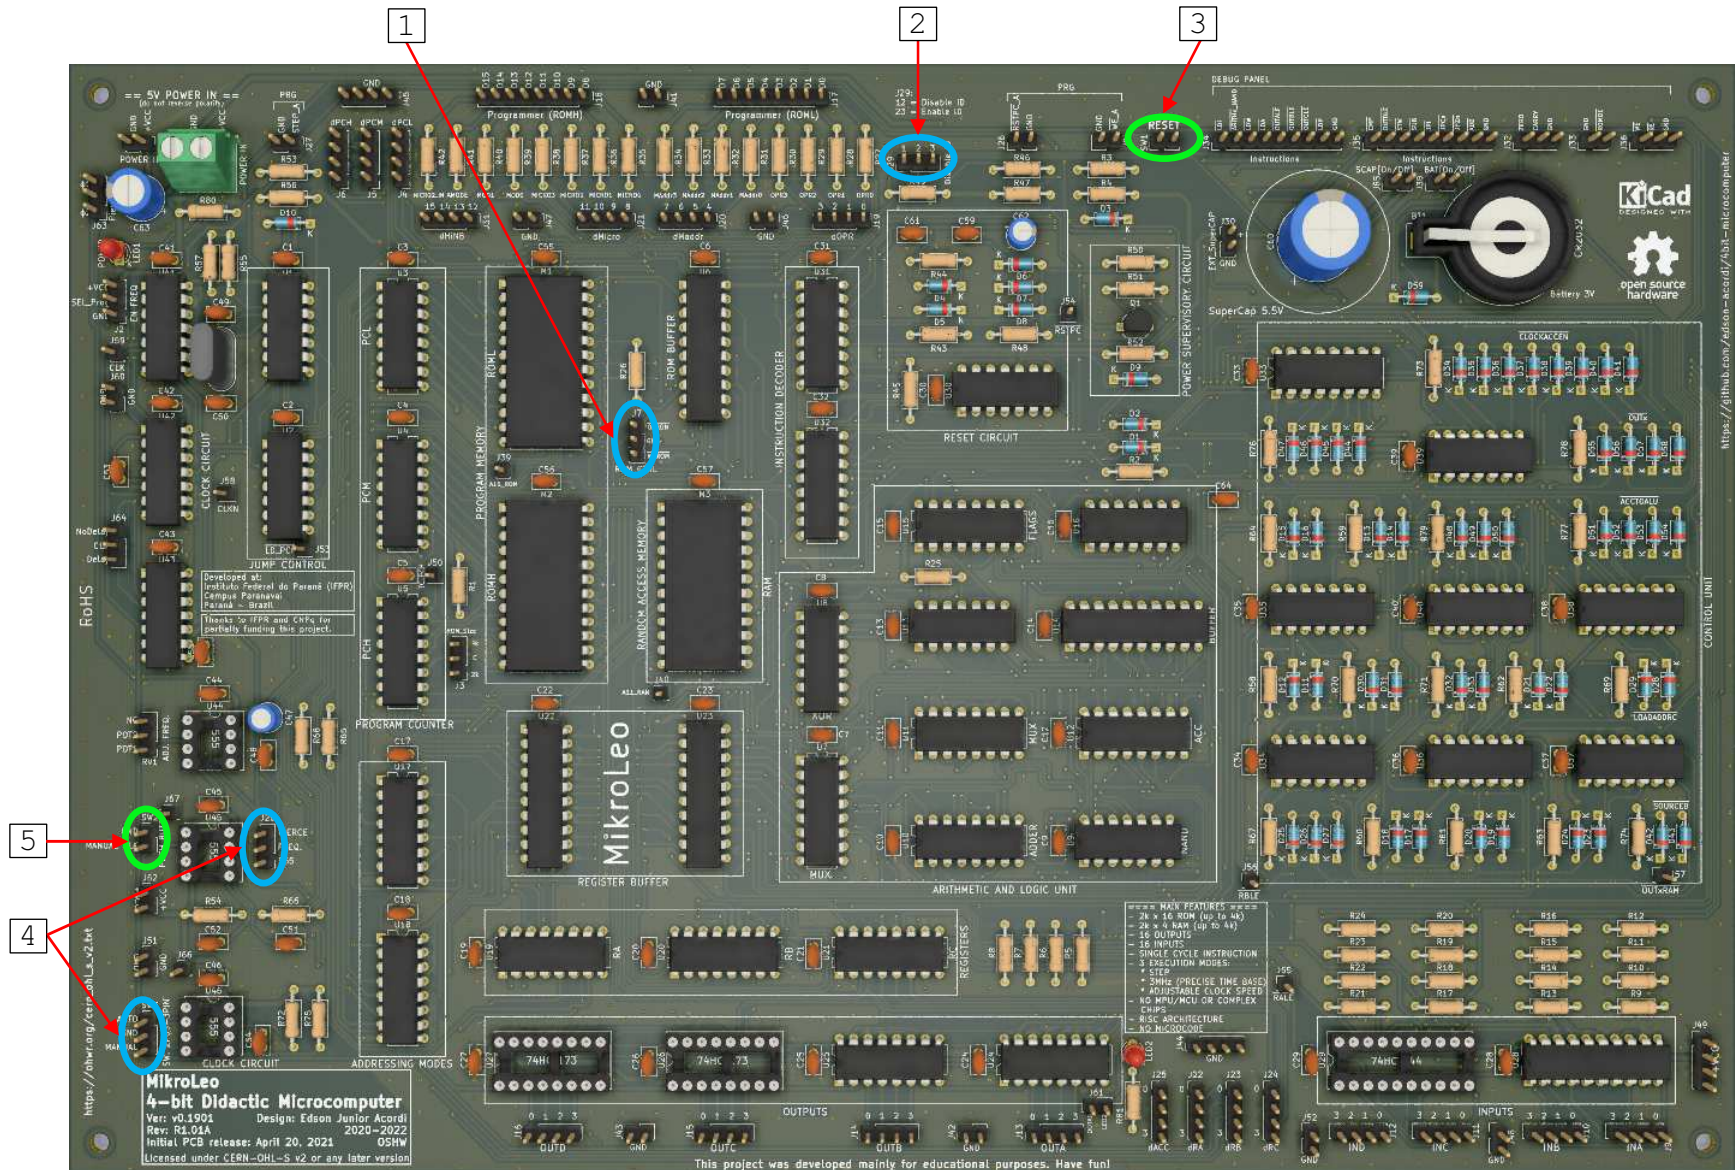

Figure 9 - Configuring the MikroLeo board to run a program
- 1) Close the pins **GND- $\overline{\text{OEROM}}$**  of jumper (J7) - Figure 9
- 2) Enable the Instruction Decoder (J29 - close pins 2-3) - Figure 9
- 4) If you want to RUN in AUTO mode, select a Clock source - Figure 9: